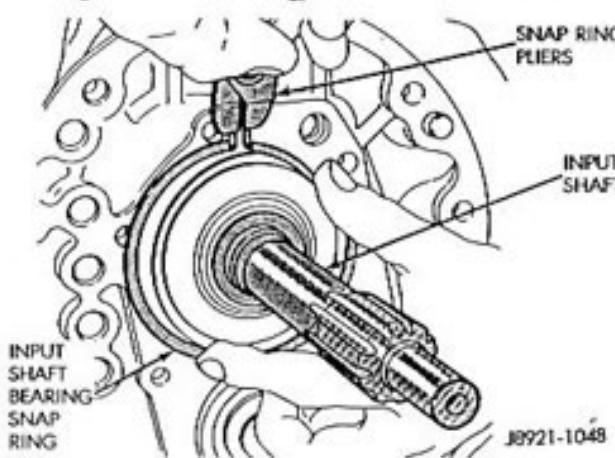

Fig. 18 Removing Input Shaft Bearing Snap Ring
(3) Remove the input shaft bearing snap ring (Fig. 18).